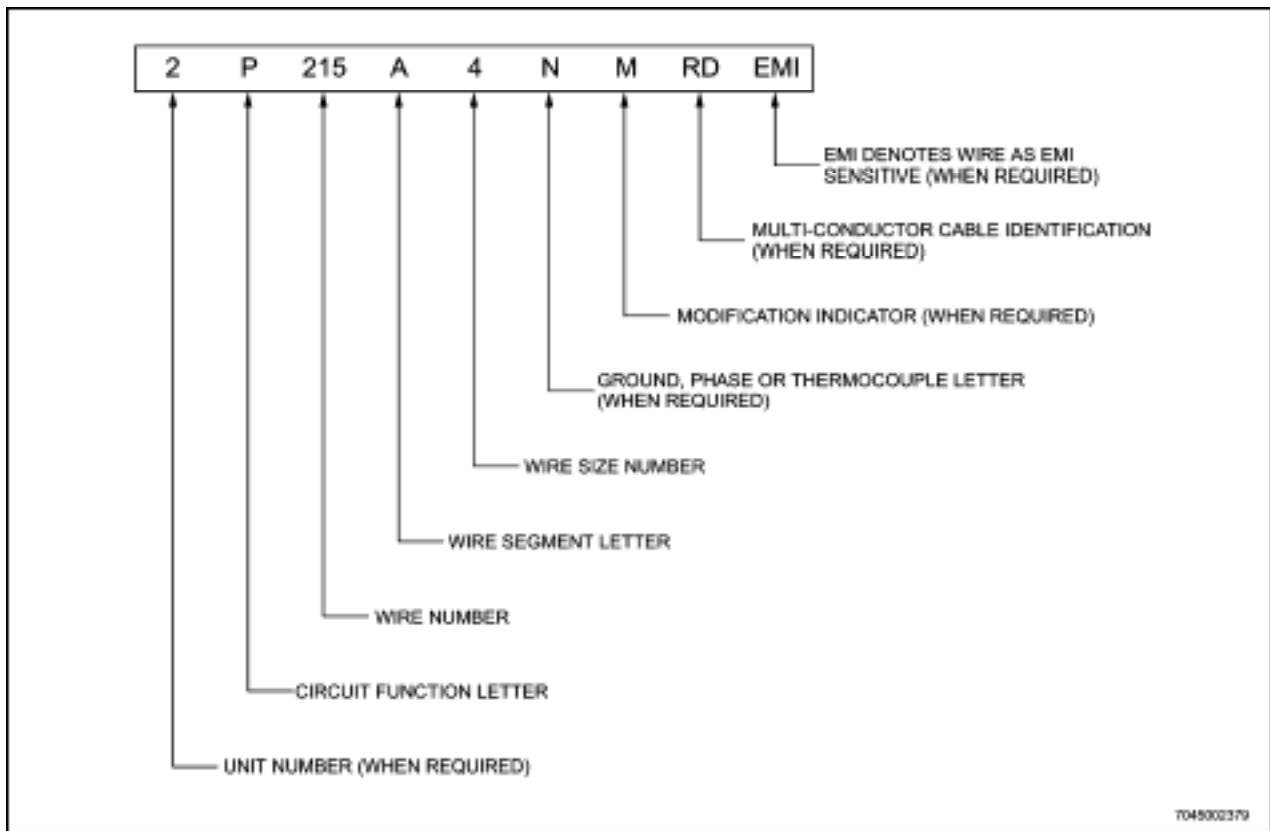

Figure 2-1 Example of Wire Identification Coding
3. The basic wire identification code used for all circuits (refer Table 2-1) is described in the following paragraphs and Figure 2-1.
21. A current method for identifying EMI sensitive wires and cables consists of a suffix to the wire number that identifies the susceptibility to EMI and indicates that specific handling instructions are detailed in the aircraft wiring manual. This suffix shall remain at the end of the significant wire number regardless of the requirement for any other suffix. Figure 2-1 provides an example of a wire identification number with the EMI identifier included.
29. The identification code, as shown in Figure 2-1 should be applied to wires either horizontally or vertically. The preferred method of identification is to apply the identification marking directly on the wire or cable with a laser wire-marking machine. Use this method wherever possible. If the wire insulation or outer covering will not mark clearly, lengths of insulating tubing (standard or heat shrink) may be laser marked or hot stamped with the identification code and installed on the wire or cable. The following types of wire may require identification by means of sleeves:
33. Multi-conductor cables may be identified by marking directly onto the outer sheath using a laser marking machine or with pre-marked sleeves (refer Figure 2-4) installed as described in paragraph 44. Immediately following each wire identification number, indicate the colour of the individual conductor as detailed in Figure 2-1 using the following abbreviations: